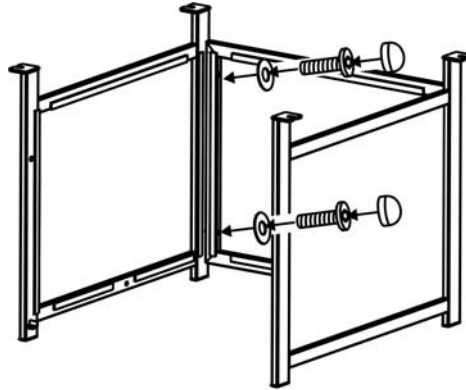

Figure 2
2. Attach the back panel to the side panels (1 and 2) by using four 1/4"x45 mm bolts and Ø6.5x1.0 mm washers as shown in Figure 2. Guide the bolts through the holes in back panel, into the pre-drilled holes in the side panels. **Hand tighten only.**